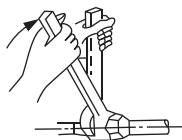

Fig.5-4
- Tighten it with a spanner and torque wrench (See Fig.5-4)
- When connecting the refrigerant pipes, always use two wrenches/spanners to tighten or loosen the nuts!(See Fig.5-4) Otherwise, it will cause damage of piping connections and leakage.